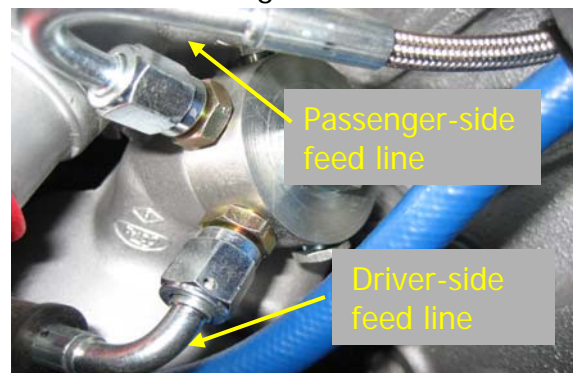
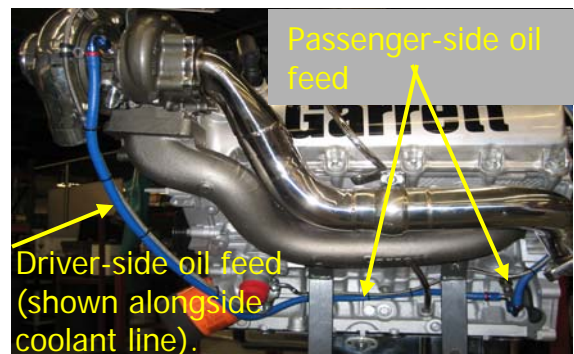

Fig.14
Fig.15
1. Passenger-side turbo: Take the longest supplied steel braided hose and attach to the multi-port oil feed fitting as shown (Fig. 14). Route along lower block and shown (Fig 15 & 16).
2. Drivers-side turbo: Using the shorter supplied steel braided hose, route as shown (Fig. 15).